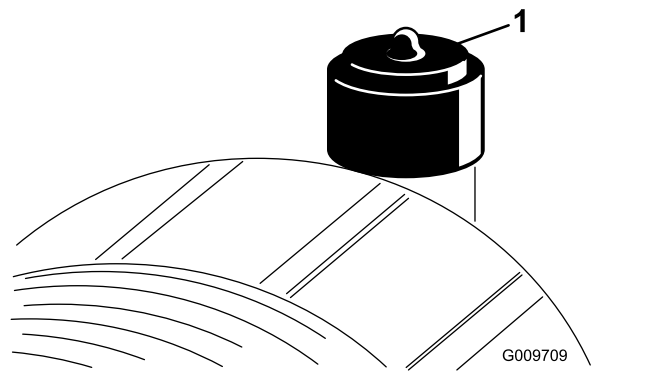

Figure 73
Service the air-cleaner filter only when the service indicator (Figure 73) requires it. Changing the air filter before it is necessary only increases the chance of dirt entering the engine when the filter is removed.
2. Reset the indicator (Figure 73) if it shows red.